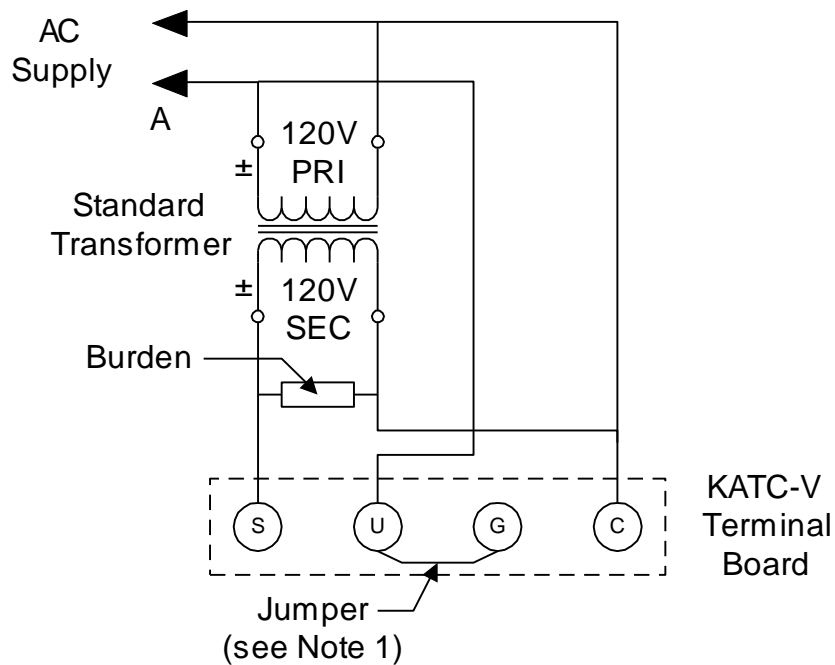

Figure 2 - One-to-One Test
The One-to-One test is a method for checking the calibration of the KATC-V and associated standard transformer. The One-to-One test shown in Figure 2 is to be used if you are not using the KATC-V with the Knopp KVTS or 1G2 Transformer Test System. If the KATC-V is installed in a KVTS or 1G2, see the instruction manual included with that unit for information on running the One-to-One test.
1. If you are using the KATC-V without one of the Knopp Transformer Testing Systems, connect the standard transformer as shown in Figure 2 (earlier in this manual). When using the KATC-V with the KVTS or 1G2, refer to the instruction manual for your system for One-to-One test instructions.